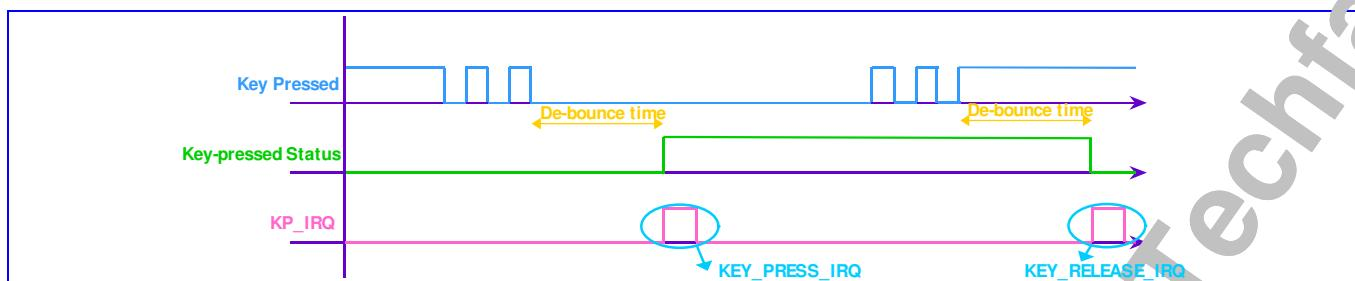
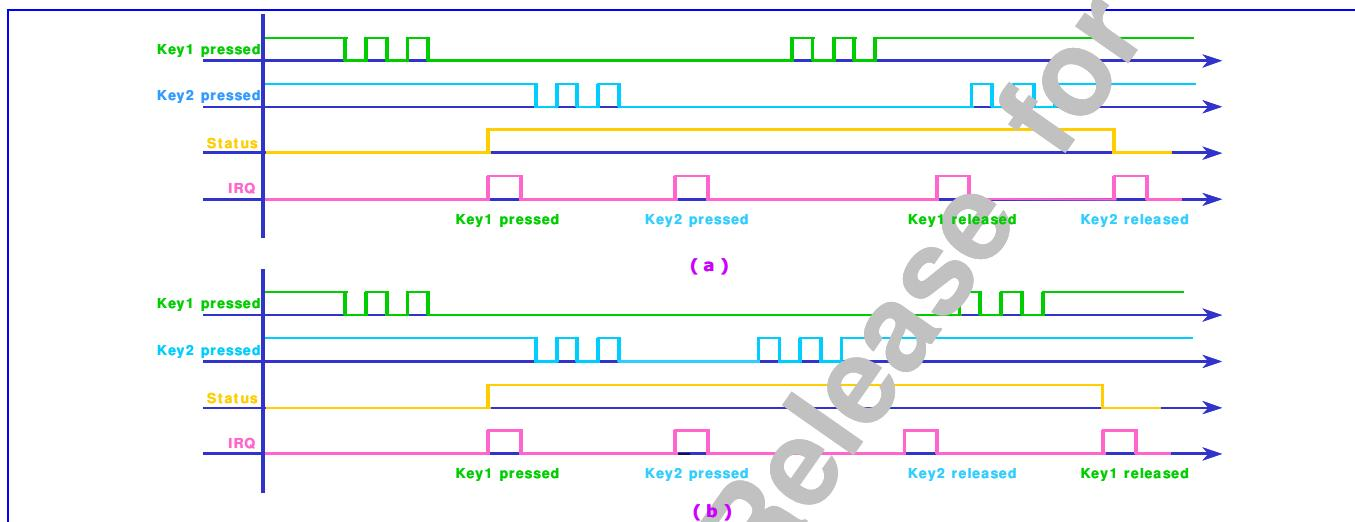
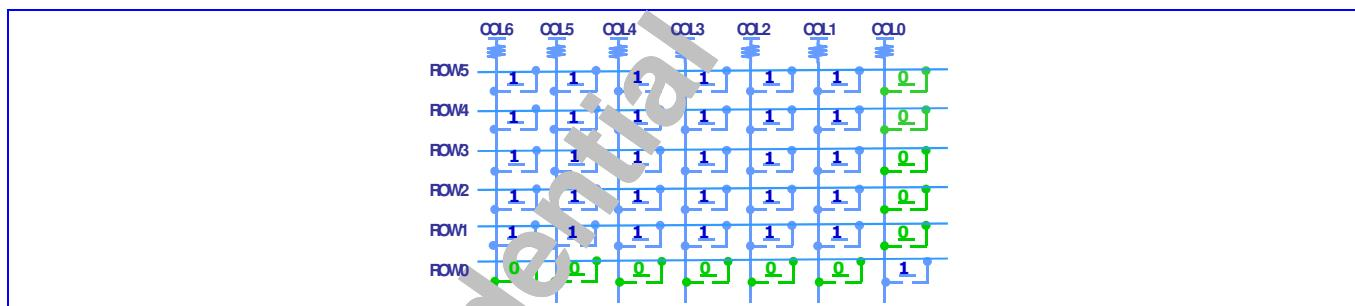

Figure 25 One key pressed with de-bounce mechanism denoted
Figure 26 (a) Two keys pressed, case 1 (b) Two keys pressed, case 2
Figure 27 11 keys are detected at the same time
The keypad can be divided into two parts: one is the keypad interface including 7 columns and 6 rows; the other is the key detection block which provides key pressed, key released and de-bounce mechanism. Each time the key is pressed or released, i.e. something different in the 7 x 6 matrix, the key detection block will sense it, and it will start to recognize if it is a key pressed or key released event. Whenever the key status changes and is stable, a KEYPAD IRQ will be issued. The MCU can then read the key(s) pressed directly in KP\_HI\_KEY, KP\_MID\_KEY and KP\_LOW\_KEY registers. To ensure that the key pressed information will not be missed, the status register in keypad will not be read clear by APB bus read command. The status register can only be changed by the key-pressed detection FSM. This keypad can detect one or two key-pressed simultaneously with any combination. **Figure 25** shows one key pressed condition. **Figure 26(a)** and **Figure 26(b)** indicate two keys pressed cases. Since the key press detection depends on the high or low level of the external keypad interface, if keys are pressed at the same time and there exists a key that is on the same column and the same row with the other keys, it will not be able to decode the correct key pressed. For example, if there are three key presses: key1 = (x1, y1), key2 = (x2, y2), and key3 = (x1, y2), then both key3 and key4 = (x2, y1) will be detected, and therefore it will not possible to distinguish correctly. Hence, the keypad can detect only one or two keys pressed simultaneously at any combination. Due to the keypad interface, more than two keys pressed simultaneously with some specific pattern will get the wrong information. If these specific patterns are excluded, the keypad-scanning block can detect 11 keys at the same time and it's shown as **Figure 27**.